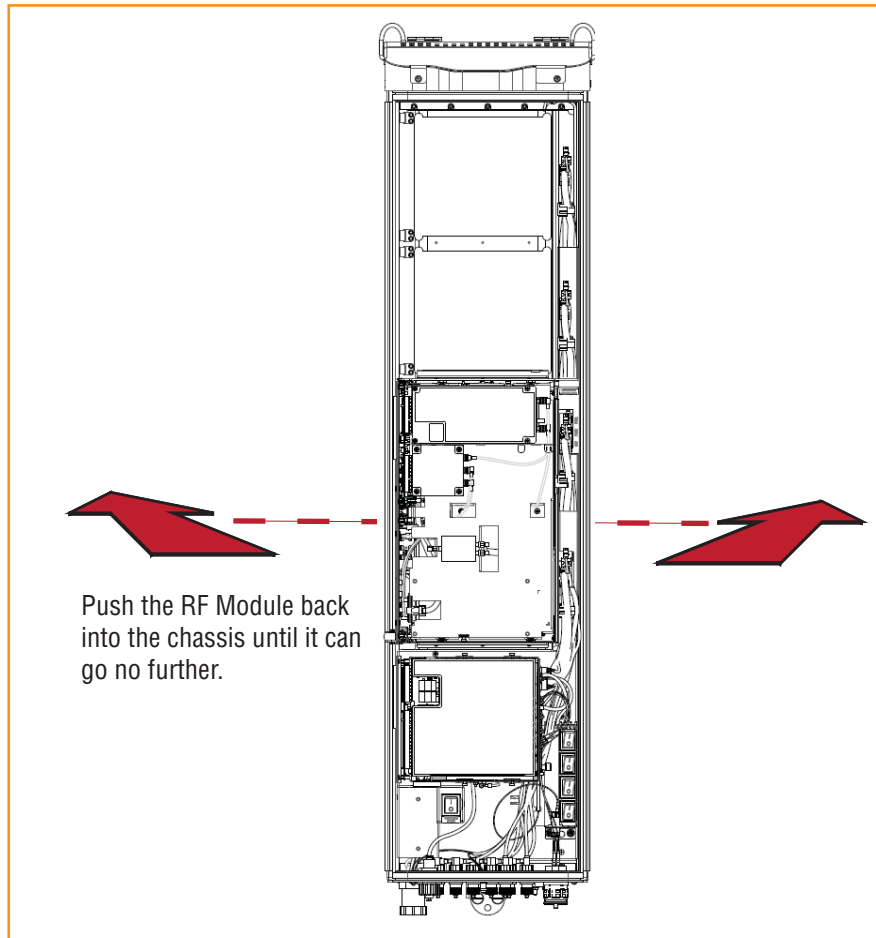

Figure 17. Seating a Dual-Bay RF Module
- For Dual-Bay RF Modules, see Figure 17 on page 29, which uses the Legacy Dual-Bay 40W RF Module as an example.